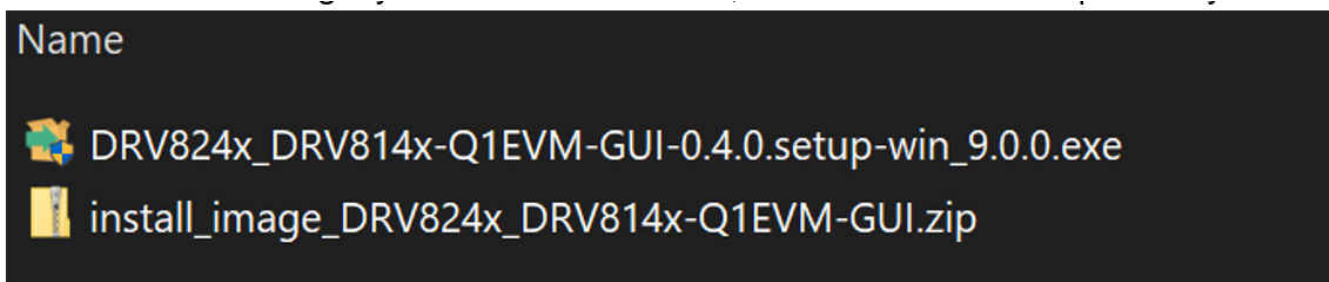

Figure 3-4. GUI Application Archive Contents
4. From the decompressed archive, run the installer “DRV824x_DRV814x-Q1EVM-GUI-x.y.z.setup-win_x.y.z.exe (refer to Figure 3-4). If you have not installed the GUI Composer Runtime, the installer will take care of this for you. The installer contents will look slightly different for each OS, but should be self-explanatory.